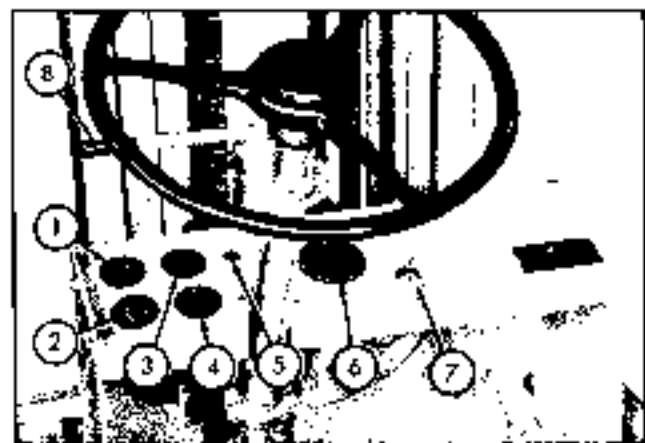

Fig. 1-7. Instrument panel
b. Turn the key for the combination ignition-starter switch (7, figure 1-7) all the way to the right to engage the starting motor. Release the key as soon as the engine starts. Do not engage the starting motor for more than 5 to 10 seconds at a time. If the engine fails to start on the first try, allow the engine and starting motor to come to a complete stop before making a second attempt. This will prevent damage to the starting motor housing, drive, and flywheel ring gear.
If, after starting the engine, there is very little or no oil pressure indicated on the oil pressure gauge, or if there is a sudden drop in oil pressure while operating the truck, stop the engine immediately and determine the cause. Correction usually consists of replenishing the crankcase oil supply. Located on the instrument panel is a red warning light (5, figure 1-7). This light will glow only when the temperature of the transmission lubricant is excessive. This indicates a plugged filter or screen, a restriction in the lines, or that the transmission oil supply is dangerously low and must be replenished before further lift truck operations.
2-21. OIL PRESSURE GAGE. The oil pressure gage (2, figure 1-7) does not indicate the amount of oil in the crankcase; it indicates the pressure of the oil in the engine lubricating system. The gage electrically senses the oil pressure and reflects it on the gage dial. With the engine at normal operating temperature and speed, the oil pressure should be between 20 and 30 pounds.
2-22. ENGINE TEMPERATURE GAGE. This gage (1, figure 1-7) indicates the temperature of the cooling fluid. Engine operation under normal conditions should register approximately 180 degrees on the gage. Temperatures excessively higher or lower than 180 degrees indicates a dirty or restricted radiator, or loss of coolant. Do not operate the lift truck until these conditions are corrected.
2-23. IGNITION-STARTER SWITCH. The combination ignition-starter switch (3, figure 1-7) opens and closes the ignition circuit, and energizes the starting motor. Turning the ignition switch "on" also opens the solenoid valve in the LP-Gas system. The starting motor is put into operation by turning the ignition key all the way to the right. A neutral starting switch prevents electrical energy from reaching the starting motor unless the transmission shift lever is in neutral.
2-24. AMMETER. The ammeter (4, figure 1-7) indicates the activity of the electrical system. If the needle indicates a continuous discharge when the engine is operating above an idle speed, the trouble would probably be a loose or broken fan belt, a short in some wire or component of the electrical system, or a faulty generator or regulator. The gage needle should move slightly to the positive side of the "0" mark on the ammeter when the engine is running at full governed speed and the battery is fully charged.
2-25. HOURMETER. The hourmeter (6, figure 1-7) records the actual hours of engine operation. Its main
2-26. WARNING LIGHT. The red warning light (5, figure 1-7) senses the transmission oil temperature and glows only when the temperature is in excess of proper operating limits. This condition is usually remedied by bringing the transmission oil level to full.
a. GASOLINE. The fuel gage (3, figure 1-7) electrically senses and indicates the amount of fuel in the lift truck fuel tank.